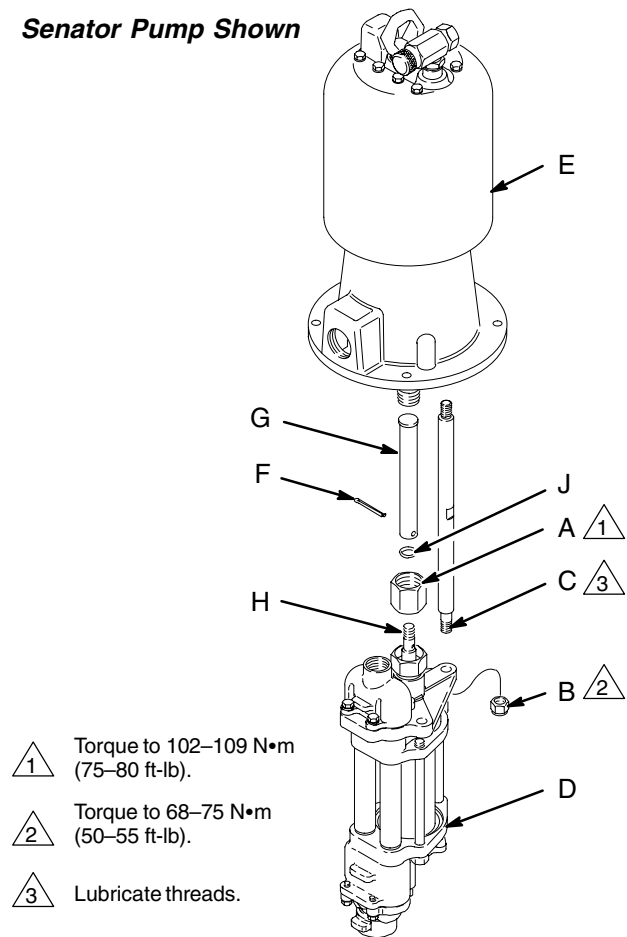
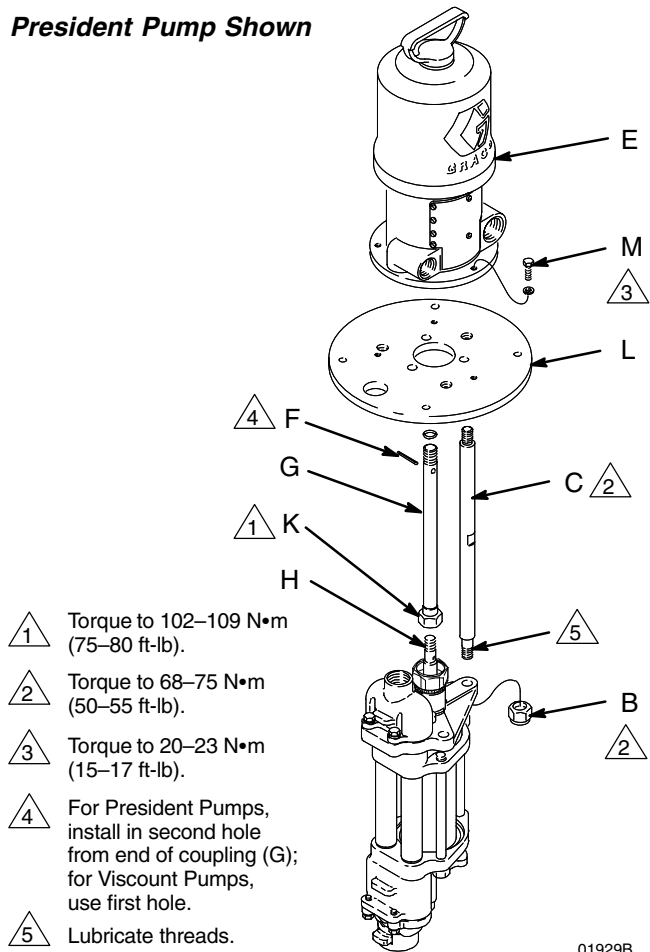

Fig. 7
Fig. 10
- **For Senator and Bulldog pumps (Fig. 7):** Unscrew the coupling nut (A). Unscrew the locknuts (B) from the tie rods (C). Pull the displacement pump (D) off the motor (E). Remove the pin (F) and screw the coupling (G) off the piston rod (H).
- **For Senator and Bulldog pumps (Fig. 7):** Make sure the coupling nut (A) and o-ring (J) are in place on the coupling (G). Screw the coupling onto the piston rod (H) and install the pin (F). Orient the displacement pump (D) to the motor (E) as shown. Position the displacement pump (D) on the tie rods (C). Lubricate the threads of the tie rods. Screw the locknuts (B) onto the tie rods loosely. Screw the coupling nut (A) onto the motor shaft and torque to 102–109 N•m (75–80 ft-lb). Torque the tie rod locknuts to 68–75 N•m (50–55 ft-lb).
1. Loosen, but do not remove, the screws (M) holding the adapter plate (L) to the motor (E). See Fig. 10.
2. Screw the tie rods (C) into the adapter plate (L) and torque to 68–75 N•m (50–55 ft-lb).
4. Remove the cotter pin (F). See Fig. 7 for Senator and Bulldog Pumps, and Fig. 10 for President and Viscount Pumps.
- *Senator and Bulldog Pumps:* See Fig. 7. Unscrew the coupling nut (A) from the motor shaft. Unscrew the coupling (G) from the piston rod (H). Set the coupling and coupling nut aside.
9. *Stainless Steel Pumps Only:* Loosen and remove the throat cartridge (38). Remove the PTFE o-ring (39).
11. Lubricate the throat packings and glands. Install one male gland (19†), then five v-packings *with the lips facing down:* one UHMWPE (20†), one leather (25†), UHMWPE, leather, UHMWPE. Install the female gland (26†). Install three v-packings *with the lips facing up:* UHMWPE, leather, UHMWPE. Install the other male gland (19†). Install the packing nut (21) finger-tight.
- NOTE:** Model 239859, 239860, 240612, and 240613 displacement pumps use 8 PTFE v-packings (20) in the throat, instead of 5 UHMWPE (20) and 3 leather (25) as on all other models.
12. *Stainless Steel Pumps Only:* Install the o-ring (39†) on the throat cartridge (38), then screw the throat cartridge into the upper pump housing (1). Torque the throat cartridge to 135 N•m (100 ft-lb).
13. Torque the packing nut (21) to 34–40 N•m (25–30 ft-lb).
- *Senator and Bulldog Pumps:* See Fig. 7. Make sure the coupling nut (A) and o-ring (J) are in place on the coupling (G). Screw the coupling onto the piston rod (H). Screw the coupling nut (A) onto the motor shaft and torque to 102–109 N•m (75–80 ft-lb).
- *President and Viscount Pumps:* See Fig. 10. Screw the coupling (G) into the motor shaft until the pin holes align. Screw the coupling nut (K) onto the piston rod (H) and torque to 102–109 N•m (75–80 ft-lb).
15. Reinstall the pin (F). If necessary, reconnect the air or hydraulic supply and move the pump to the middle of its stroke. Install the pin (F) in the **second hole** from the end of the coupling for President pumps, and in the **first hole** from the end of the coupling for Viscount pumps.